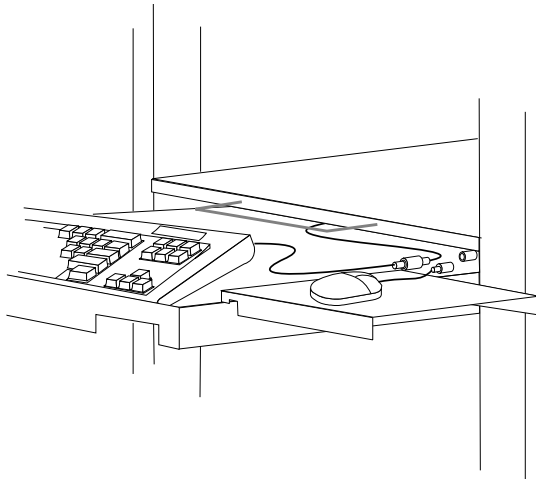

Figure 11. Installing the keyboard and mouse
3. Connect the keyboard and mouse cables to the extension cables provided (see Figure 11). The keyboard extension has a **K** label, and the mouse extension cable has an **M** label.